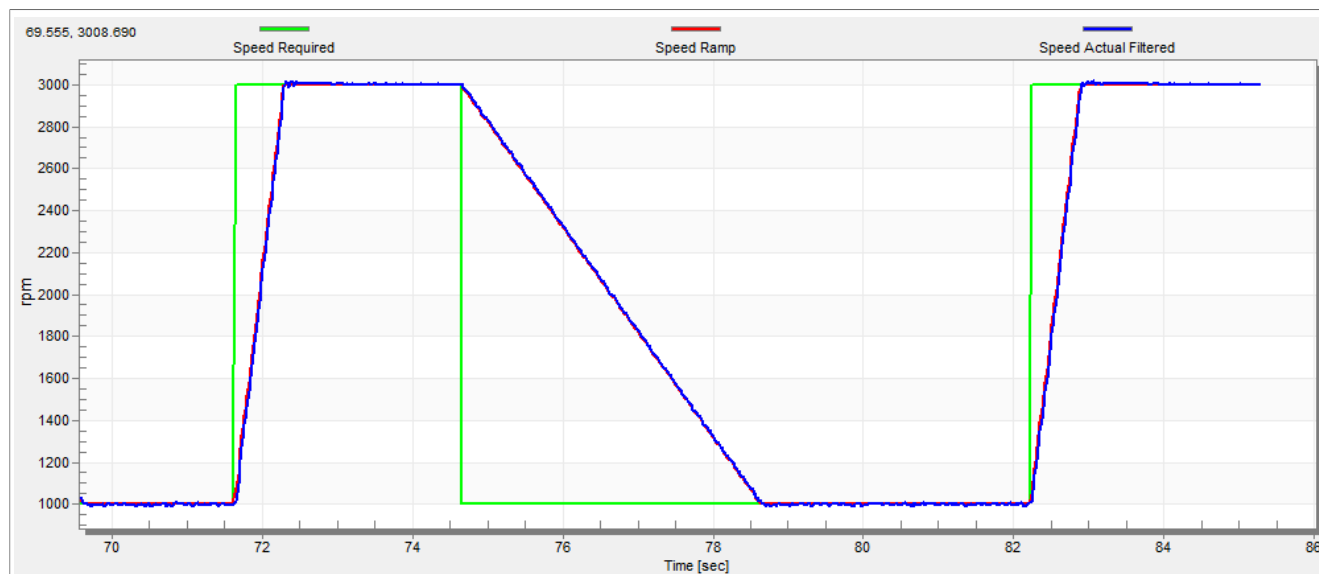

Figure 34. Speed profile
2. The increments are common for the scalar and speed control. The increment fields are in the "Speed loop" tab and accessible in both tuning modes. Clicking the "Update target" button applies the changes to the MCU. An example speed profile is shown in Figure 34. The ramp increment down is set to 500 rpm/sec and the increment up is set to 3000 rpm/sec.